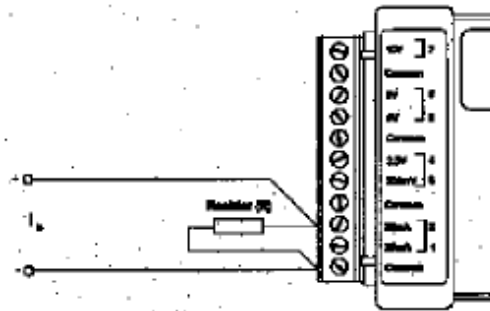

Figure 7-6: Modified 25mA Channel
The 25 milliamp channel can be modified to span higher ranges (greater than 25mA DC) by adding a single resistor across the input terminals as shown in Figure 7-6. The value of the resistor (R) must be calculated by the following formula based on the desired current input range (I_{in}) in mA**: